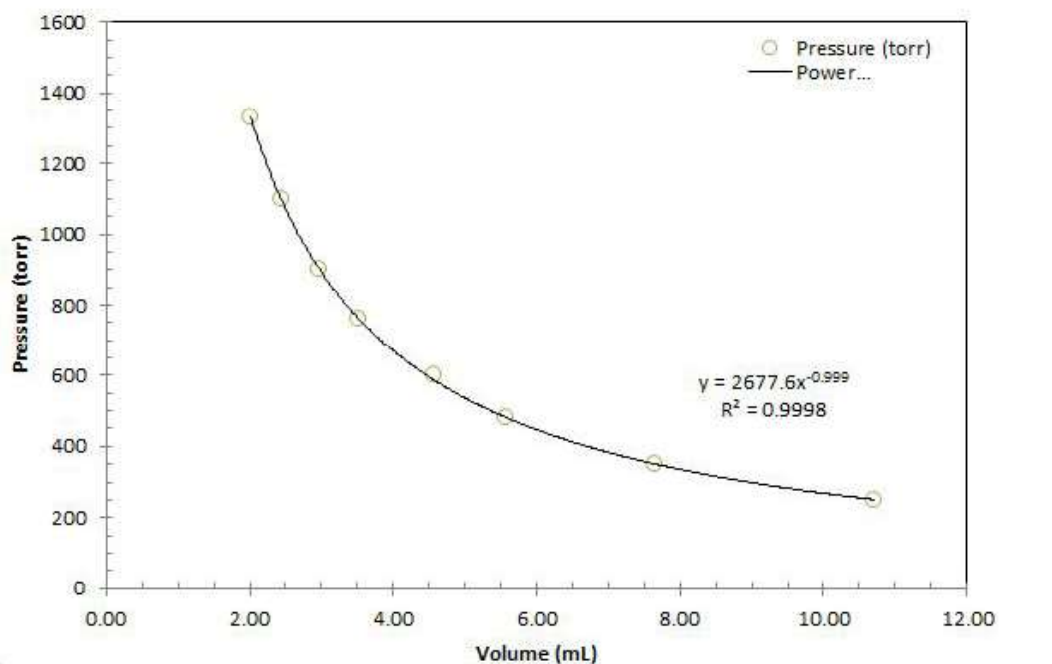

Figure 8.13: Completed computer graph. credit: author
- Take one last look at your graph. It should look similar to the one shown in Figure 8.13. Are there any more changes you need to make? If so make them.